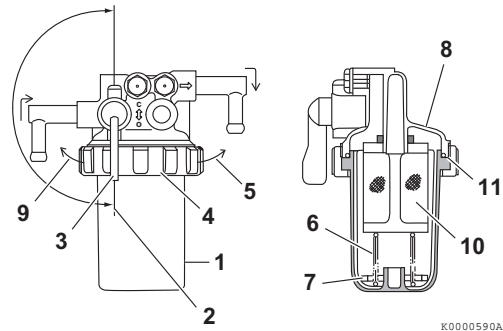

Figure 17
1. Position an approved container under the cup (**Figure 17, (1)**) of the water separator to collect the contaminants.
2. Close (**Figure 17, (2)**) the fuel valve (**Figure 17, (3)**).
3. Turn the retaining ring (**Figure 17, (4)**) to the left (**Figure 17, (9)**).
4. Carefully remove the cup (**Figure 17, (1)**). Remove the retaining spring (**Figure 17, (6)**) and float (**Figure 17, (7)**) from the cup. Pour the fuel into an approved container and dispose of waste properly. Hold the bottom of the cup with a shop towel to prevent the fuel from dripping. Wipe up any spills immediately.
5. Remove the element by pulling it down (**Figure 17, (10)**).
8. Inspect condition of the O-ring (**Figure 17, (11)**). Replace if necessary.
9. Put the float (**Figure 17, (7)**) and retaining spring (**Figure 17, (6)**) inside the cup.
10. Install the cup to the mounting flange (**Figure 17, (8)**) and turn the retaining ring (**Figure 17, (4)**) to the right (**Figure 17, (5)**). Hand-tighten only.
11. Open the fuel valve (**Figure 17, (3)**).